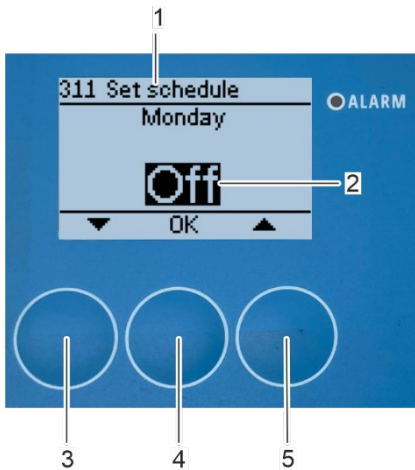

Fig. 155: Select the days for automatic cleaning
⇒ The "311 Set schedule" submenu (Fig. 155/1) appears on the display.
- Press the arrow key *[up]* (Fig. 155/5) on the days you want the rotor cleaning device to perform an automatic cleaning.
If the rotor cleaning device shall not perform an automatic cleaning on the selected day confirm the selection [Off] (Fig. 155/2) with [OK] (Fig. 155/4). The display switches to the next day of the week.